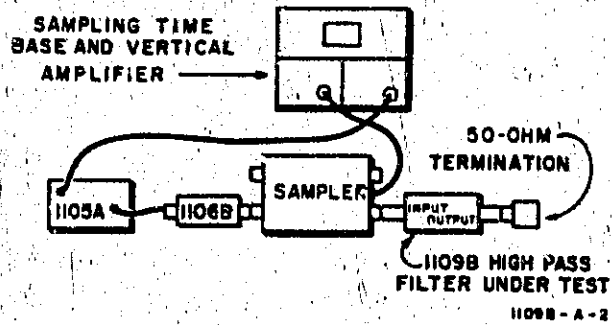

Figure 4. Model 1109B TDR Reflection Measurement
- 13. Set up the equipment as shown in Figure 4.